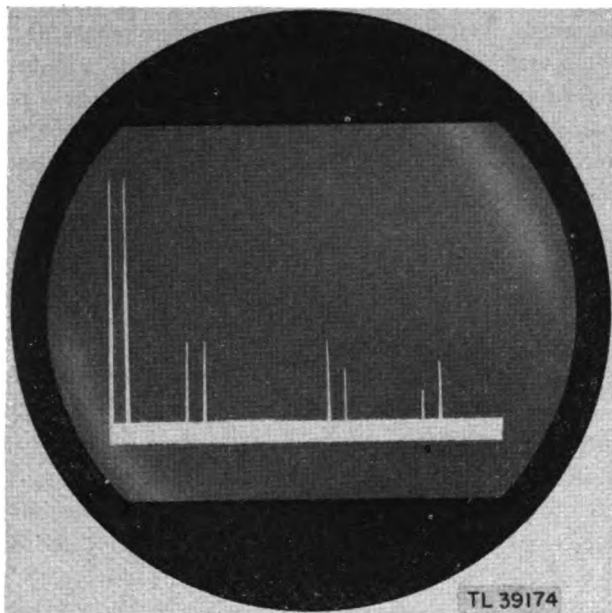

Figure 4. Target indicator, cathode-ray tube.
b. The other target indicator is an A-type cathode-ray tube display. Signals appear as pips on a horizontal line (fig. 4). The display is synchronized with the transmitted signal by the synchronizer that triggers the transmitter pulse. Synchronization involves starting the sweep at the right instant, calibrating its